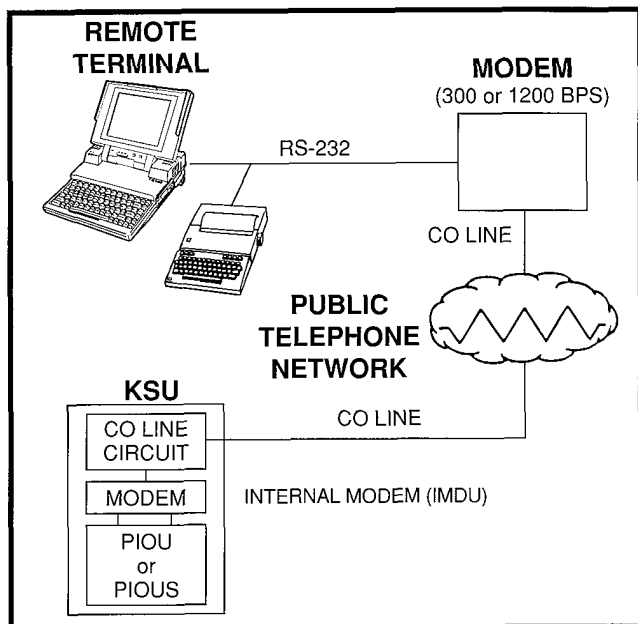

FIGURE 1—PIOUS/IMDU CIRCUIT DIAGRAM
2.01 Remote Administration and Maintenance is accomplished with a remote terminal/modem communicating over the public telephone network via a Modem Unit (IMDU) installed in the STRATA DK KSU. The IMDU is a built-in modem so an external, customer-supplied modem is not required (see Figure 1).
6.01 Terminal: The terminal must interface with an asynchronous modem, communicate in ASCII code at 300 or 1200 bps, have a standard typewriter-type keyboard, and display data via a CRT display or printer. A personal computer capable of emulating the described terminal may also be used (see Figure 1 and Paragraph 15).
6.11 Refer to Figure 1 and verify that the remote terminal is connected and set-up as follows: